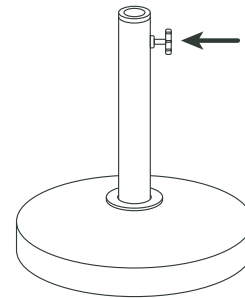

FIG. 2
3. Place the base flat on the ground and screw the knob into place on the pole. (Fig. 2)